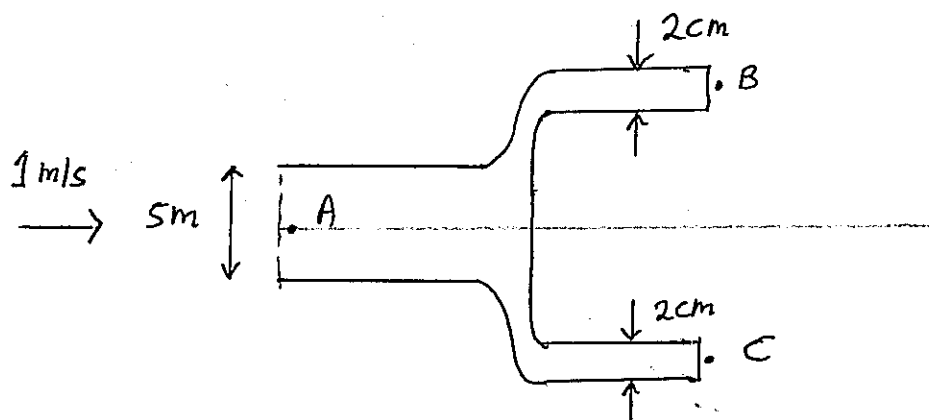

Figure 2
2) The plan view of a component in a pipeline is shown in Figure 2. Water flows into the component at A, where the pipe has a circular cross-section with a diameter of 5 cm. The pipe then divides into two identical smaller pipes, each with a diameter of 2 cm, as shown in the figure. Water is discharged into the atmosphere at B and C through these pipes, as shown in the figure.